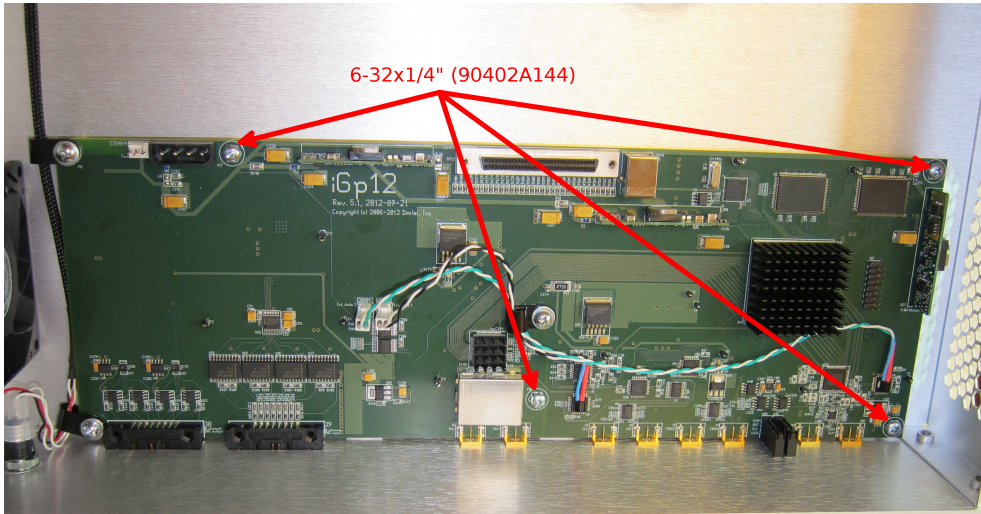

Figure 32: Installation locations for 4 6-32x1/4" screws.
4. Install 4 90402A144 screws at mounting points M2, M5, M6, M7 as shown in Fig. 32 and tighten to 4 in-lbs.